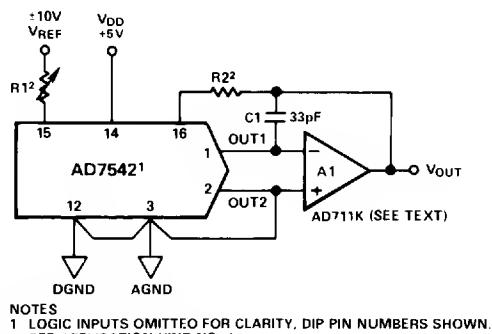

Figure 4. Unipolar Binary Operation (2-Quadrant Multiplication)
Gain is defined as the ratio of the DAC's Full Scale output to its reference input voltage. An *ideal* AD7542 would exhibit a gain of  $-4095/4096$ . Gain error is adjustable using external trims as shown in Figures 4 and 5.
Figure 4 shows the analog circuit connections required for unipolar binary (2-quadrant multiplication) operation. The logic inputs are omitted for clarity. With a dc reference voltage or current (positive or negative polarity) applied at  $V_{REF}$ , the circuit is a unipolar D/A converter. With an ac reference voltage or current the circuit provides 2-quadrant multiplication (digitally controlled attenuation). The input/output relationship is shown in Table II.
Table II. Unipolar Binary Code Table for Circuit of Figure 4
Additionally, the  $\bar{CLR}$  input allows the AD7542 DAC register to be cleared asynchronously to 0000 0000 0000. When operating the AD7542 in a unipolar mode (Figure 4), a CLEAR causes the DAC output to assume OV. In the bipolar mode (Figure 5), a CLEAR causes the DAC output to go to  $-V_{REF}$ .
4. GAIN TEMPERATURE COEFFICIENTS: The gain temperature coefficient of the AD7542 has a maximum value of 5ppm/ $^{\circ}$ C and a typical value of 2ppm/ $^{\circ}$ C. This corresponds to gain shifts of 2.0LSBs and 0.82LSBs respectively over a 100 $^{\circ}$ C temperature range. When trim resistors are used to adjust full-scale range as shown in Figures 4 and 5 the temperature coefficient of R1 and R2 should be taken into account. It may be shown that the additional gain temperature coefficients introduced by R1 and R2 may be approximately expressed as follows: —